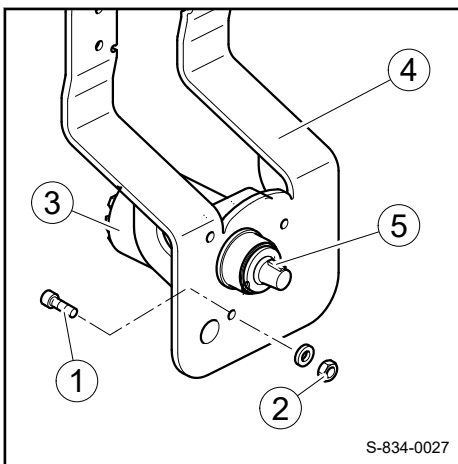

Fig. 250
2. Mount travel motor 3 ↪ Fig. 250 with hexagon screws (1), washers and nuts (2) to the support leg (4).
3. Install the feather key (5) in the travel motor (3).